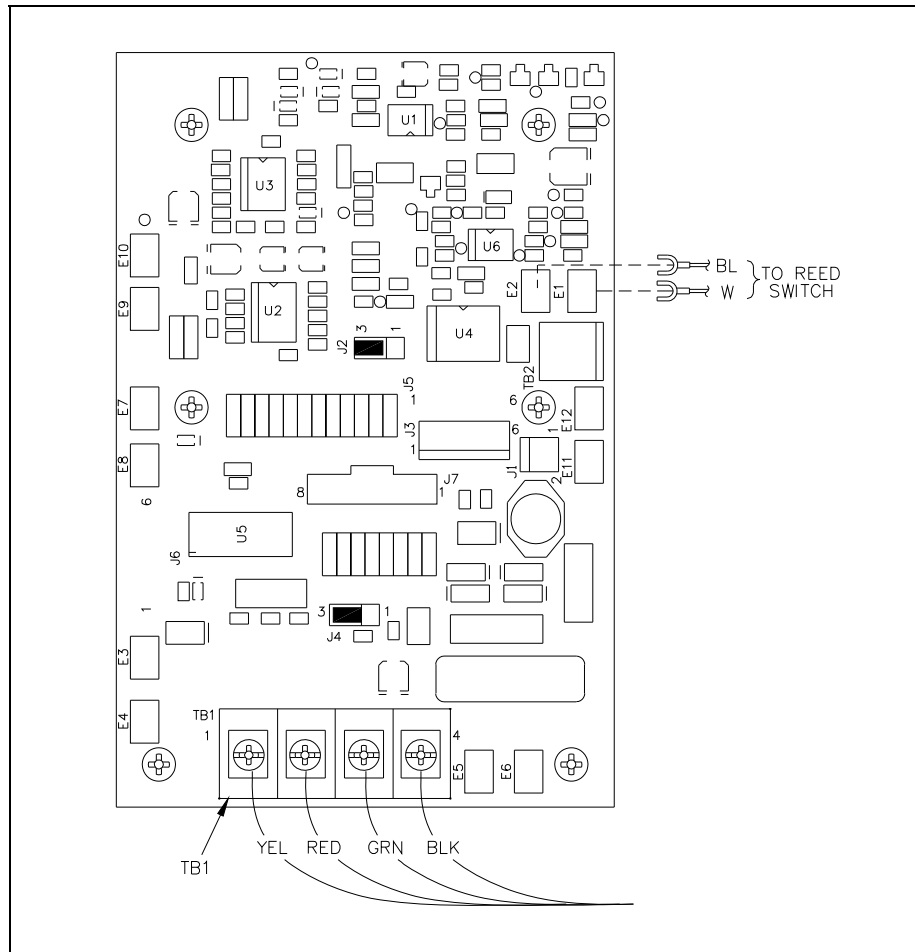
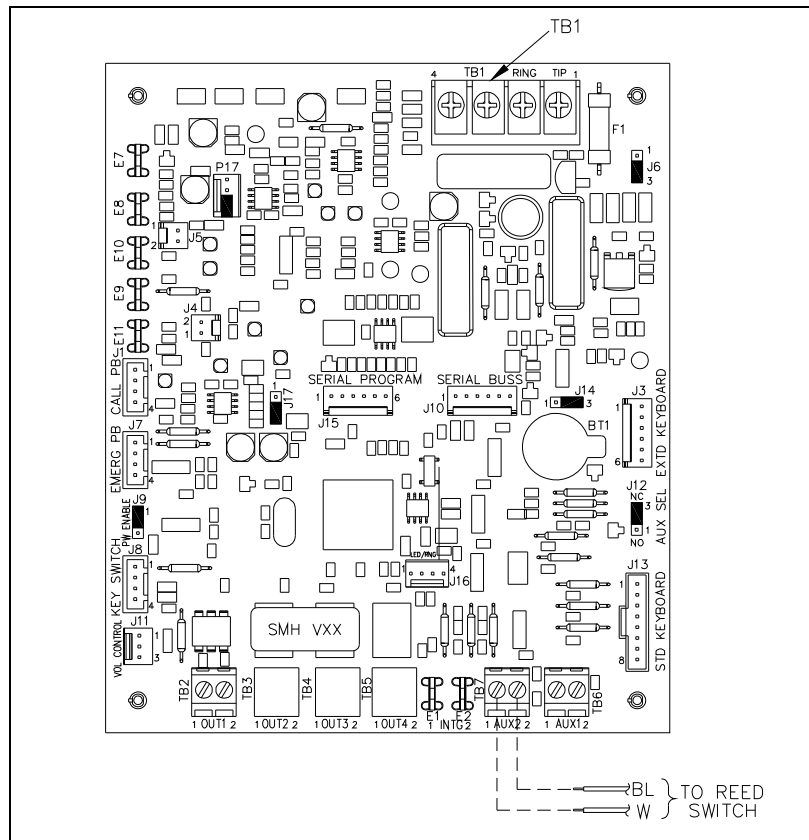

Figure 3. Models with -001 suffix
Figure 4. Models with -003 suffix
3. Remove all wires from TB1 on models with the suffix -001. Remove the red (Ring) and green (Tip) wires from TB1 on models with the suffix -003, and -005. See Figure 3, Figure 4 and Figure 5, respectively. Unplug P11 power plug on models with the suffix -700. See Figure 6.
4. Disconnect the blue and white reed switch wires from the PCBA. The location will vary depending on model. See Figure 3 through Figure 6 for the location on your specific model.
17. Plug spades on the blue and white wires into the appropriate E-clips on the PCBA. For models with the suffixes -001, -005, and -700, see Figure 3, Figure 5 and Figure 6, respectively. For models with the suffix -003, clip off the spade lugs and strip the wire ¼ inch and install the leads into terminal block TB1 on the PCBA. See Figure 4.
19. For models with the suffix -001, reconnect wires to TB1 as shown in Figure 3.